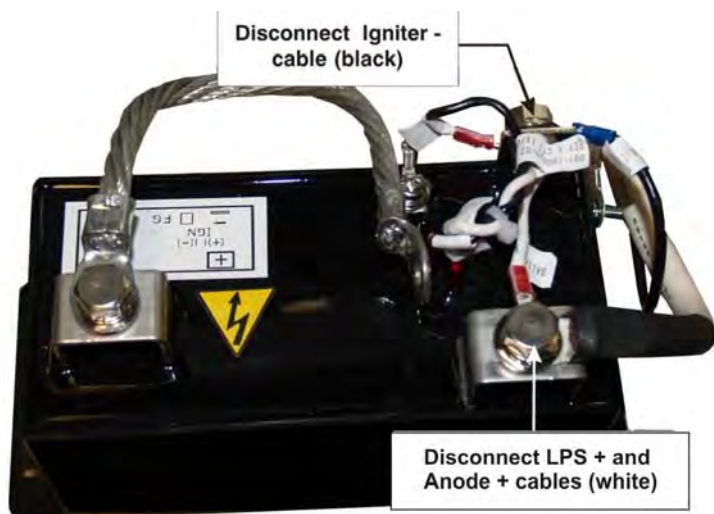

Figure 5-43 Igniter
7. Remove two, M8 bolts to disconnect the "LPS +", "Anode +" and "Igniter -" wires from the igniter (**Figure 5-43**).